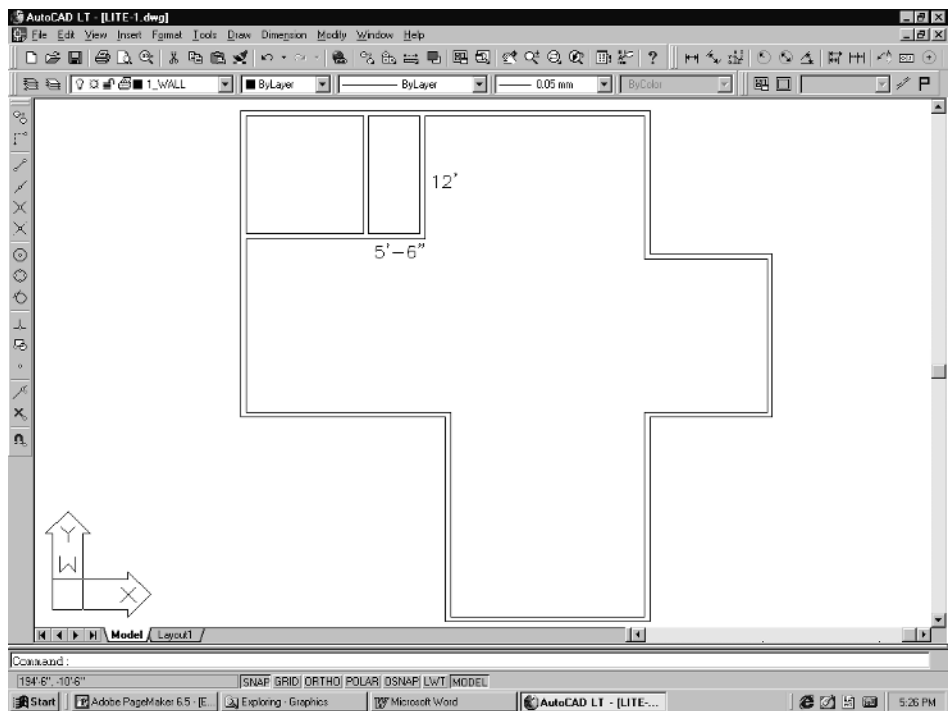

Figure 6-16
13. Now, pull down 12' and pick, or type 12' and **Enter**. Then pull 5'-6" left and pick, or type 5'6 and **Enter**. Press **Enter** again to exit. The new interior walls will be drawn. See Figure 6-16.